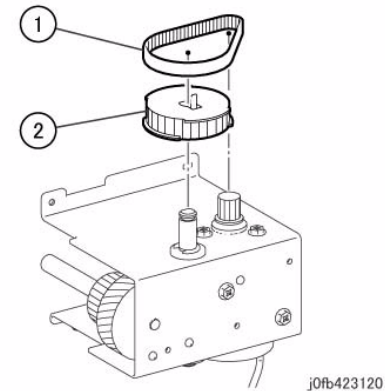

Figure 12 Belt/Pulley
15. Remove the belt and the pulley from the Stacker Elevator Motor Assembly. (Figure 12)